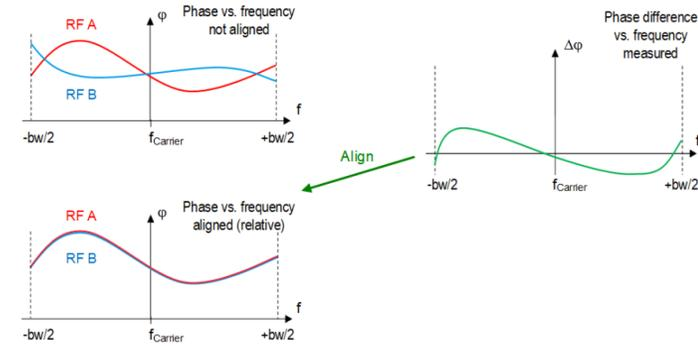

Figure 2-3: Phase responses and relative compensation
1. Phase-calibration are possible within IQ bandwidth of signal generator, figure 2.3.